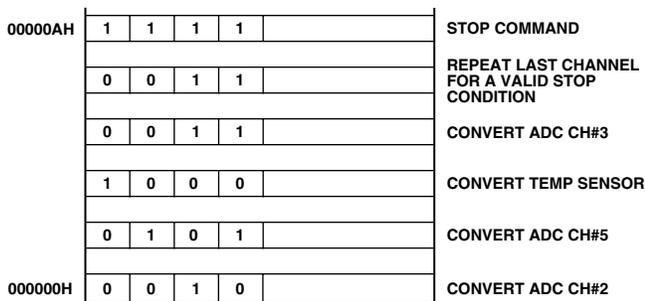

Figure 11. Typical DMA External Memory Preconfiguration
3. The external memory must be preconfigured. This consists of writing the required ADC channel IDs into the top four bits of every second memory location in the external SRAM, starting at the first address specified by the DMA address pointer. As the ADC DMA mode operates independently of the ADuC812 core, it is necessary to provide it with a stop command. This is done by duplicating the last channel ID to be converted, followed by "1111" into the next channel selection field. Figure 11 shows a typical preconfiguration of external memory.